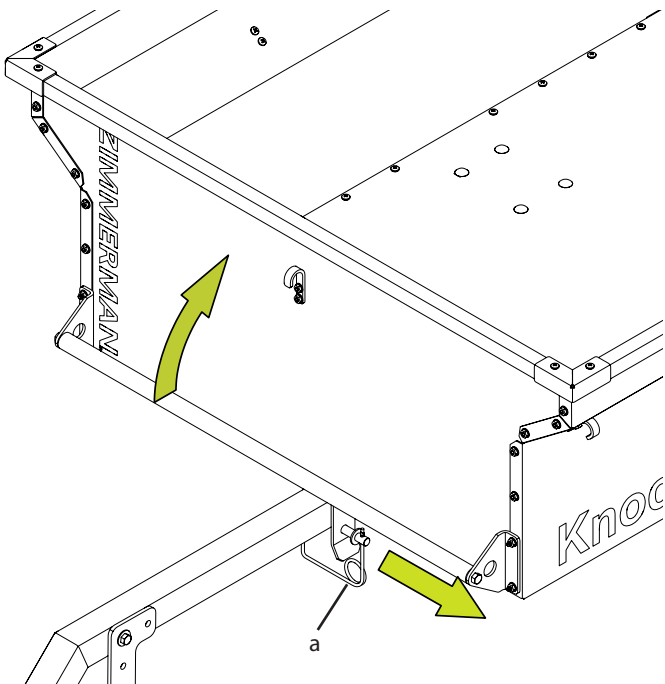

Figure 1: Remove Pin to Dump Trailer
- To use the dump capability of the trailer, remove the pin (a) from underneath the front of the bed (Figure 1).